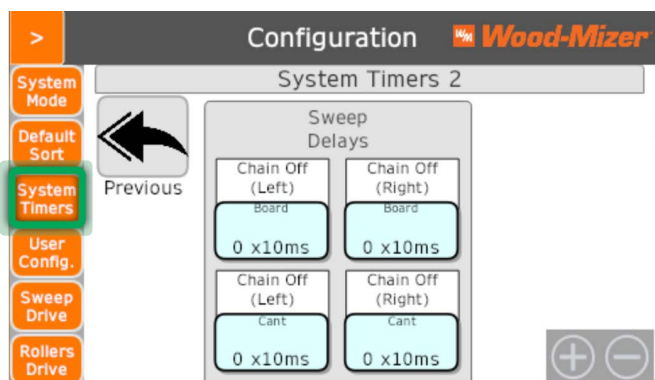

FIG. 3-12
6. Add delay time to either left or right side as needed to position lugs as needed for next sweep. See FIG. 3-12.